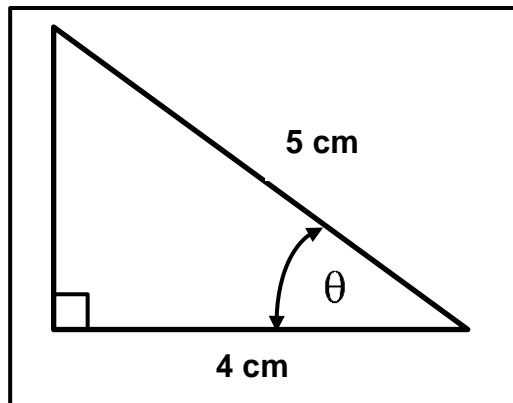

FIGURE 4.14
- (1)
4.14 Calculate the value of  $\theta$ , as indicated in FIGURE 4.14 below: